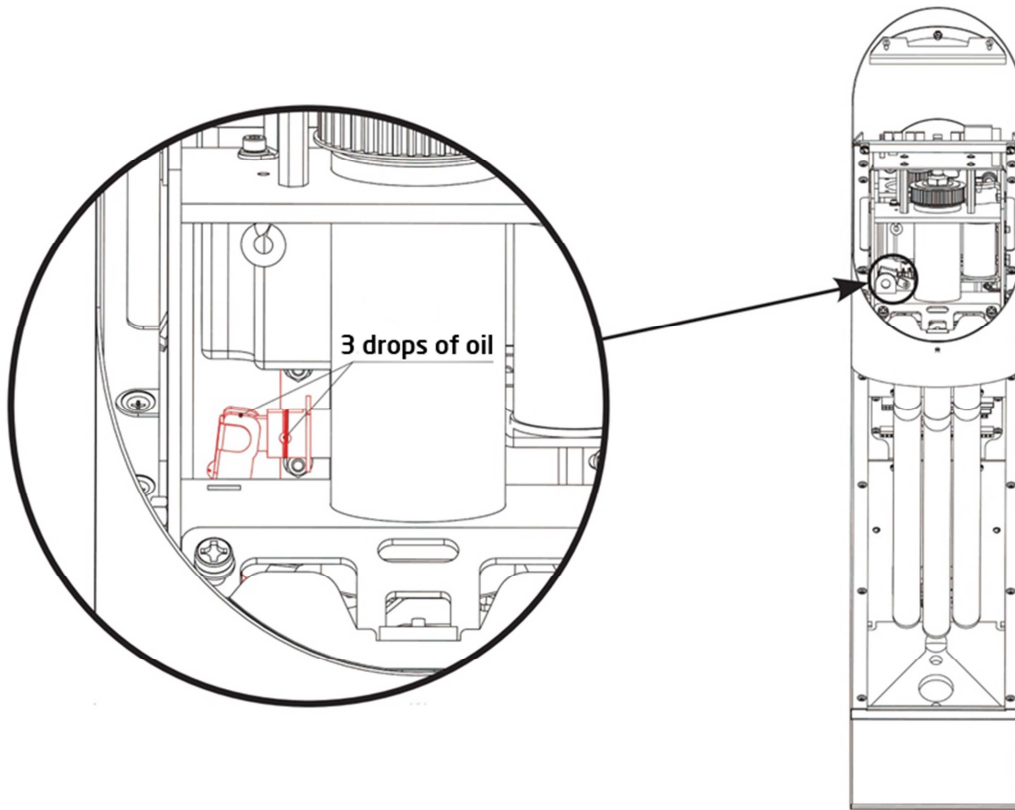

Fig.14
5.3. Clip between the stopper unit and the solenoid (Fig. 14).